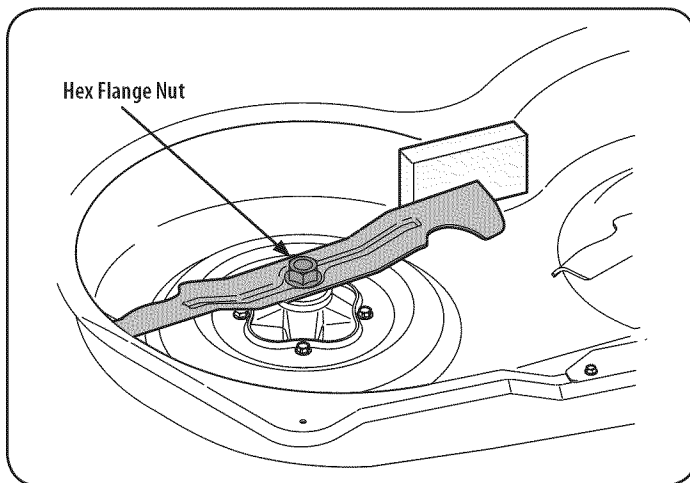

Figure 22
2. Place a block of wood between the center deck housing baffle and the cutting blade to act as a stabilizer. See Figure 22.